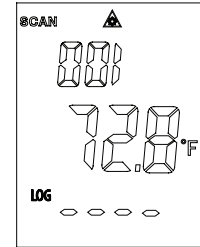

Fig. 1
1. While holding the trigger, press the **MODE** button until the **LOG** icon appears in the lower left corner of the screen. A LOG location number will be shown in the top display and a LOG location number will be shown in the top display and “\_ \_ \_” will appear in the bottom display if no temperature has been saved to that location (Fig. 1).